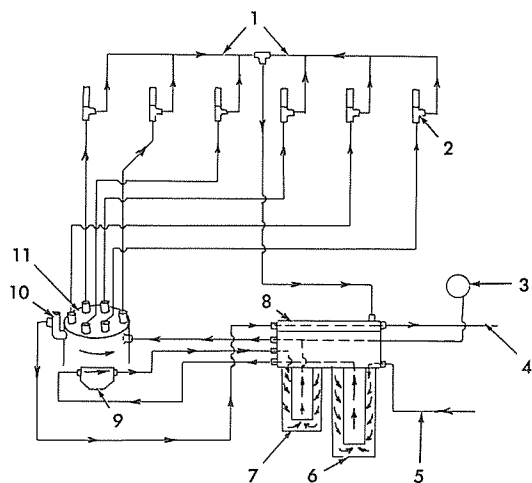

Fig. 1 — Fuel Flow Schematic
In the low pressure system, fuel is drawn from the fuel tank through the first stage filter, Fig. 1 (6), by